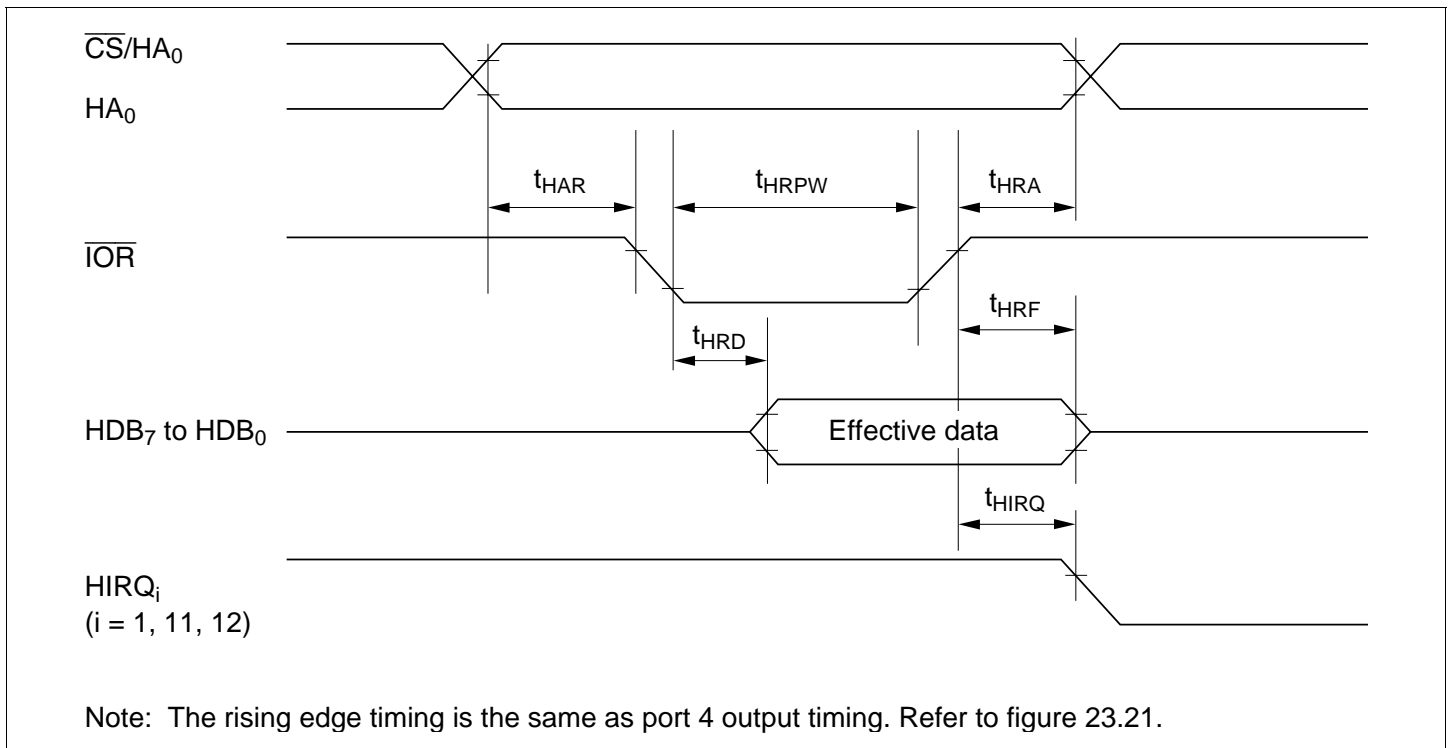

Figure 23.22 Host Interface Read Timing
23.5.8 Host Interface Timing (H8/3337 Series Only)	Figures 23.22 and 23.23